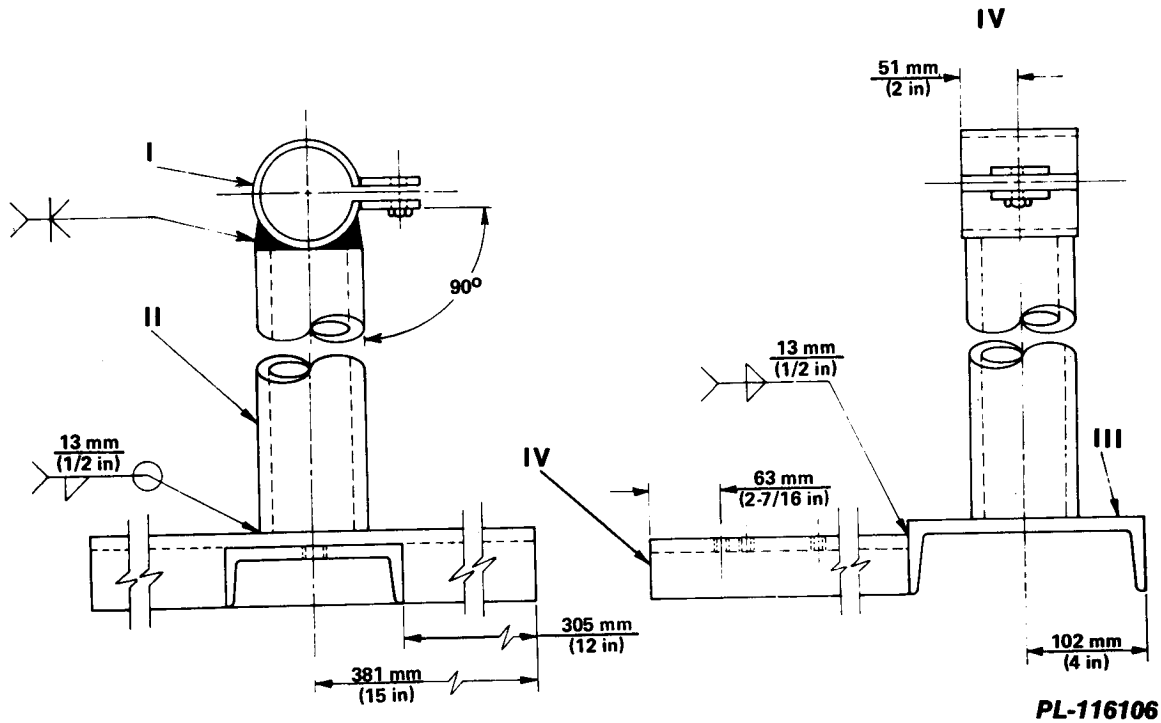

Figure 6-47
- B. Stand weldment - left hand (Figure 6-47).